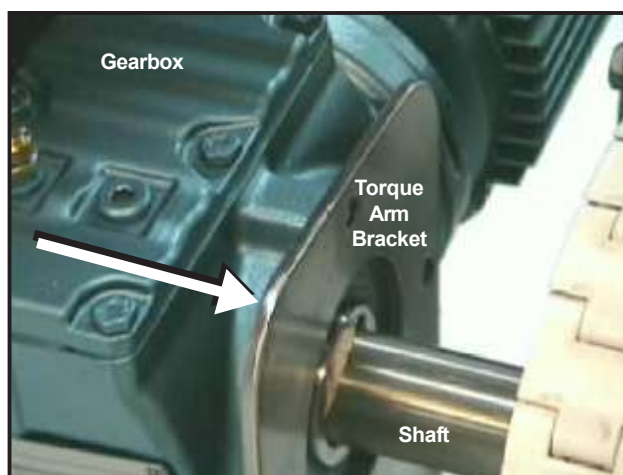

Figure 37: Slide gearbox onto drive shaft
- Gently slide the gearbox onto the drive shaft, and align the keyways together. The gearbox should slide all the way to the torque arm bracket (*Figure 37*).